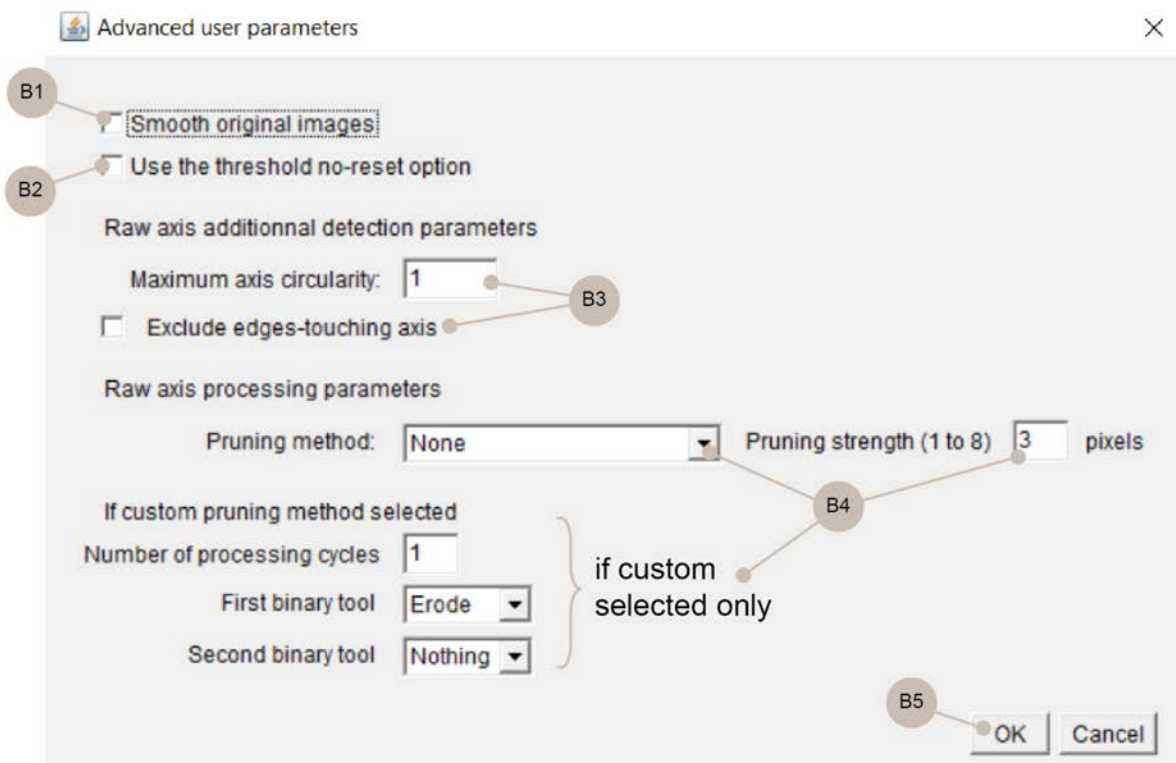

Figure 4.7. The Advanced user parameters menu
**OPTIONAL STEP B.** Advanced user options can be used to improve the accuracy of detecting the axis in images. This is especially helpful for images that have a lot of noise or those that are super-resolution. If you choose to use the advanced user options, a window called "Advanced user parameters" will appear at **STEP 7** (as shown in Figure 4.7).